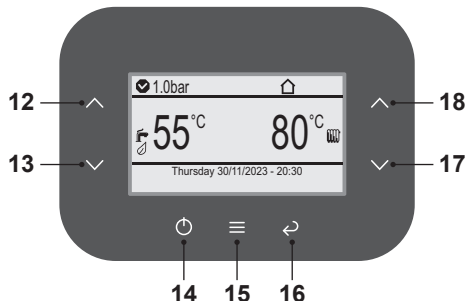
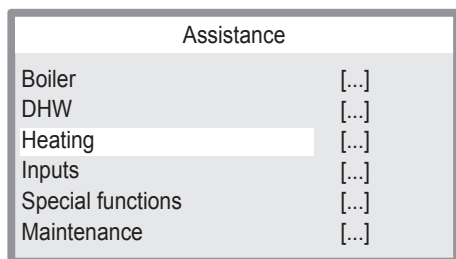
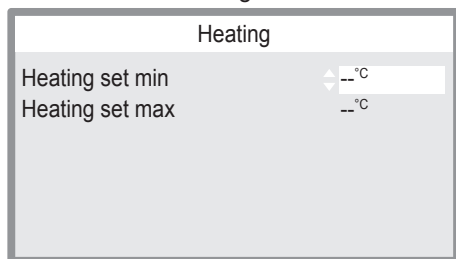

Fig. 8.22
Fig. 8.25
Fig. 8.26
- Press key 15 (Fig. 8.22) to go to the main menu (Fig. 8.23).
- Press key 12 or 13 (Fig. 8.22) to select the desired menu (Fig. 8.24).
- Press key 15 (Fig. 8.22) to access the selected menu (Fig. 8.25).
- Press key 12 or 13 (Fig. 8.22) to select the desired menu from those available (Fig. 8.26).
- Press key 15 (Fig. 8.22) again to highlight the value to be changed.
- Press key 15 (Fig. 8.22) to confirm the change or key 16 to exit without changing the value (return to previous level).